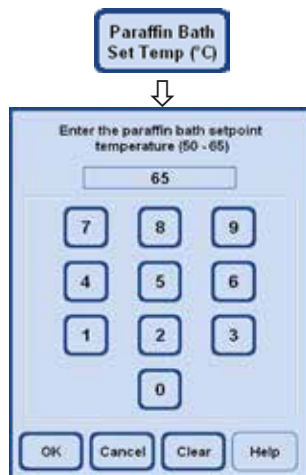

Fig. 90
- Press **PARAFFIN BATH SET TEMP.** to open the entry window (Fig. 90) for the paraffin bath temperature.